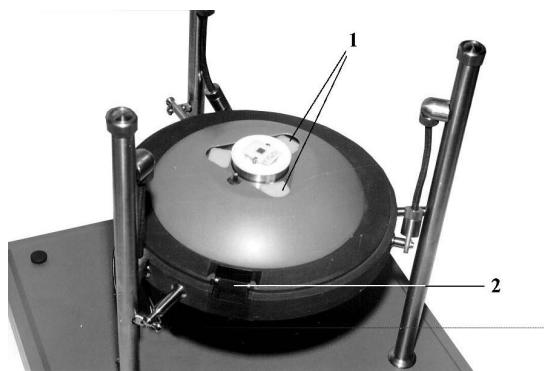

Fig. 150
Set SFM measuring head with its legs onto the support plates (1) (Fig. 150) on top of the scanner unit.
The cable should be opposite the pocket (2) (Fig. 150) in the rubber disk. Insert the black holder on the cable into the pocket (Fig. 151). Move the scanner up by rotating the knob counter-clockwise (bottom view) to approach the sample to about 0.5 - 1.0 mm from the probe (Fig. 152) observing it from the side. It is advisable to have the investigated area of the sample on the scanner axis i.e. in the middle of the line connecting the substrate clips. Should the investigated sample be located away from the scanner axis there will be a parasitic incline of the surface in the course of scanning. It limits the use of some features and makes the operation more difficult.